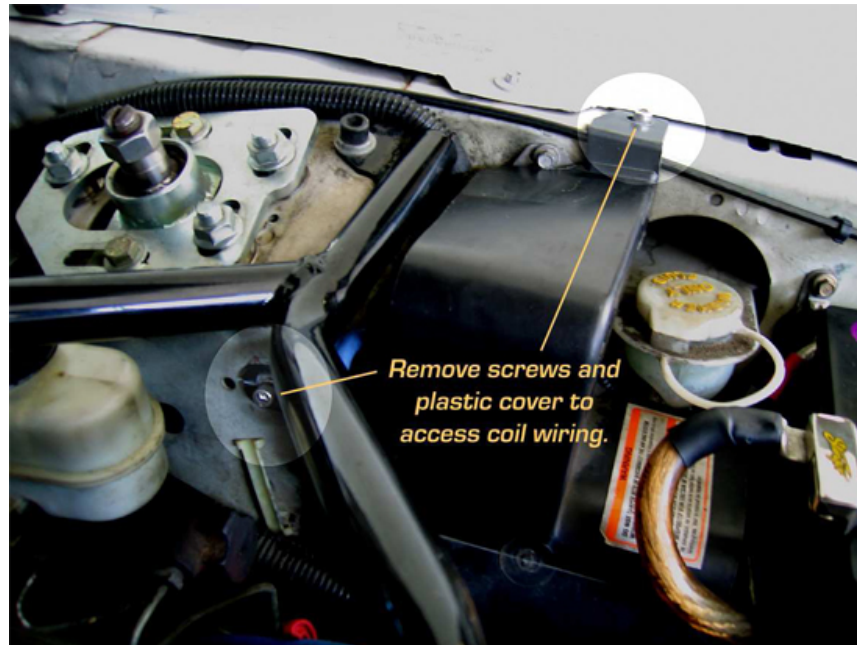

Fig3a
7. Remove the plastic coil/ solenoid cover by loosening the screws that hold it in place. (See: Fig3a) Disconnect the factory TFI harness from the coil and gently move it aside. Remove the coil primary wire from the coil tower, leaving the other end connected to the distributor cap. Using the 1/4" socket, remove the 4 screws located in the corners of the coil and lift the coil from the mounting bracket.